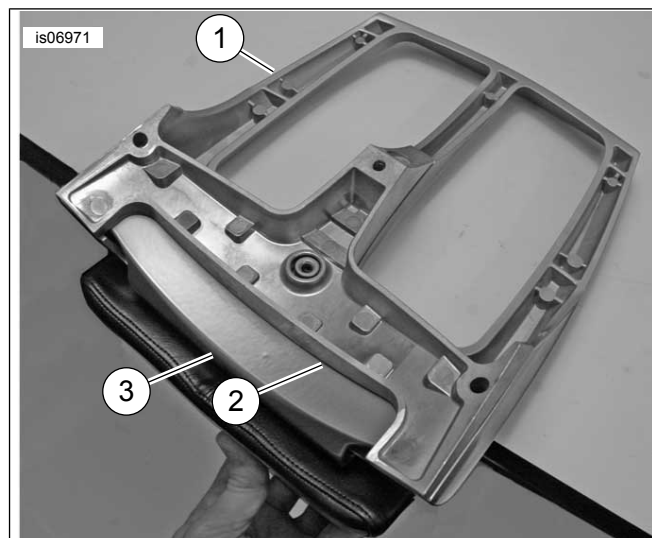
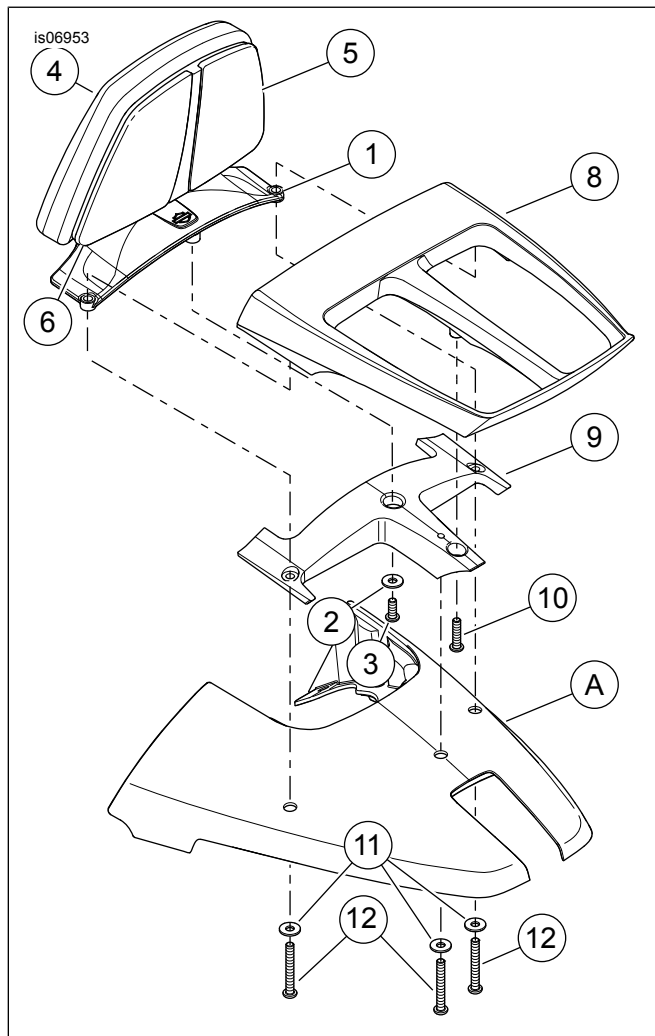

Figure 4. Luggage Rack and Backrest Installation
Figure 5. Service Parts: VRSCDX Luggage Rack and Upright
See Figure 5 and Table 1.
3. See Figure 5. To align the components, start the forward two screws (12) through the base plate and luggage rack just enough for the screw threads to engage.
4. Install screw (10) through the base plate and luggage rack. Tighten screw to 9 N·m (80 in-lbs).
5. Remove two screws (12).
7. Install three screws (12) and washers (11) as follows:
If installing the backrest after previously installing the luggage rack only, remove the fender cover, luggage rack and base plate from the motorcycle. Follow the directions below for installing the kit. Clean screws (items 10 and 12, Figure 5) and use Loctite 243 - blue for re-installation.
2. See Figure 4. Orient the backrest (3) so that the outer mounting holes of the backrest align with the mounting holes of the luggage rack (1).
3. Install the base plate (2) over the backrest and luggage rack.
4. See Figure 5. Start screw (3) and washer (2).
5. Align the components, start the forward two screws (12) through the base plate and luggage rack enough for the screw threads to engage.
6. Start screw (10) through the base, backrest and luggage rack.
7. Tighten screw (3) to 12 N·m (106 in-lbs).
8. Tighten screw (10) to 9 N·m (80 in-lbs).
9. Remove two screws (12).
11. Install three screws (12) and washers (11) as follows: